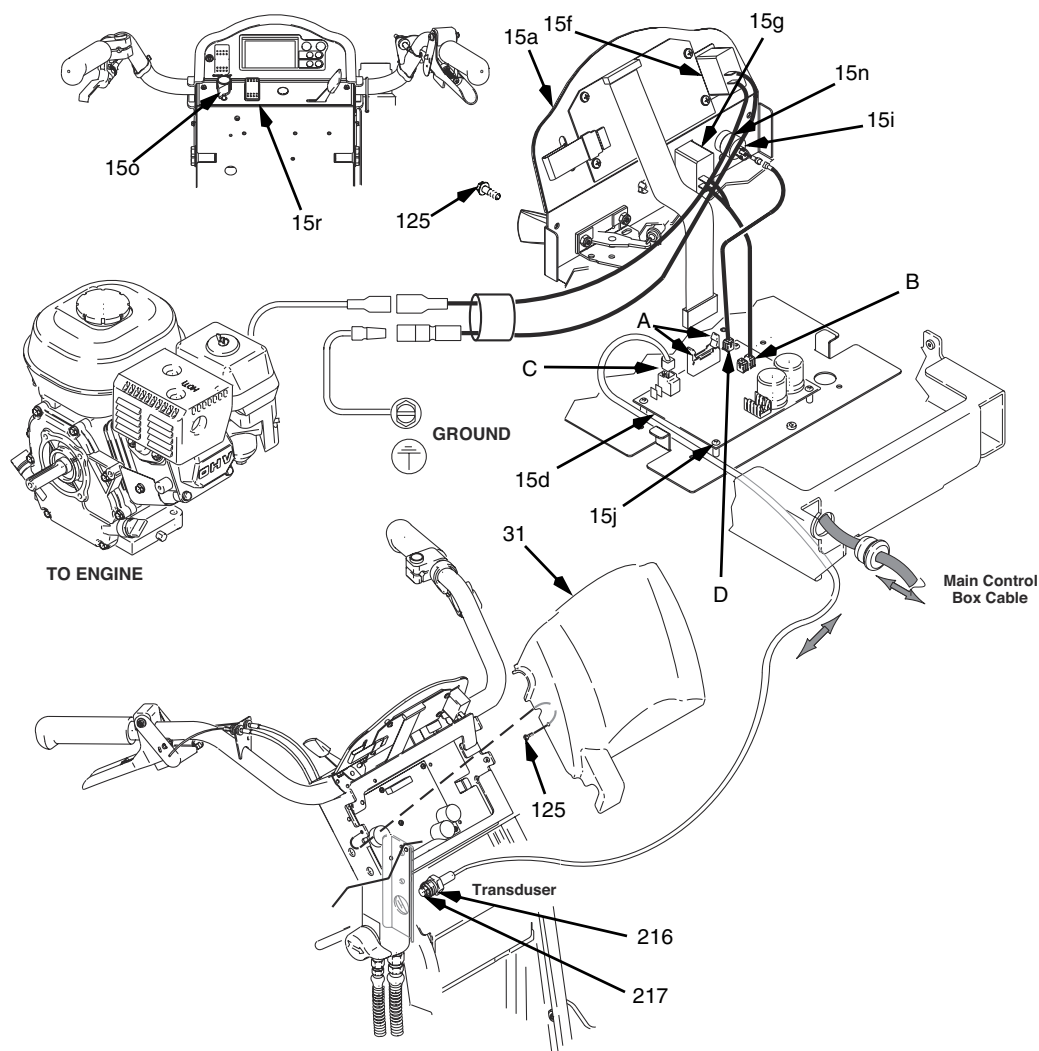

FIG. 13
2. FIG. 13. Remove two screws (125) and cover (31).
3. Remove three screws (125) from control plate (15a). Slide control plate out to access ON/OFF switch (15g).
4. Press locking tab on ON/OFF switch connector (B) and disconnect from control board.
2. FIG. 13. Remove two screws (125) and control cover (31). Pull display connector wings open on control board and pull display connector out.
3. FIG. 13 and FIG. 21. Note on a paper lead connections to the control board. Disconnect leads from control board (15d).
4. FIG. 13. Remove five screws (15j) from control board (15d).
1. FIG. 13. Install control board (15d) with five screws (15j).
2. FIG. 13 and FIG. 21. Refer to note on lead connections to the control board. Connect leads to control board (15d).
3. FIG. 13. Push display connector into control board close display connector wings on control board. Install control cover (31) with two screws (125).
2. FIG. 13. Remove two screws (125) and control cover (31).
3. Disconnect transducer lead (C) from control board (15d).
4. Remove pressure control transducer (216) and o-ring (217) from filter manifold (40).
1. FIG. 13. Install o-ring (217) and pressure control transducer (216) in filter manifold (40). Torque to 35-45 ft-lb.
2. Connect transducer lead (C) to control board (15d).
3. Install control cover (31) with two screws (125).
3. Disconnect lead (D) from control board (15d).
2. FIG. 13. Install pressure adjust potentiometer (15i), shaft nut, lockwasher and potentiometer knob (15o).
3. Connect lead (D) to control board (15d).
4. Install control cover (31) with two screws (125).